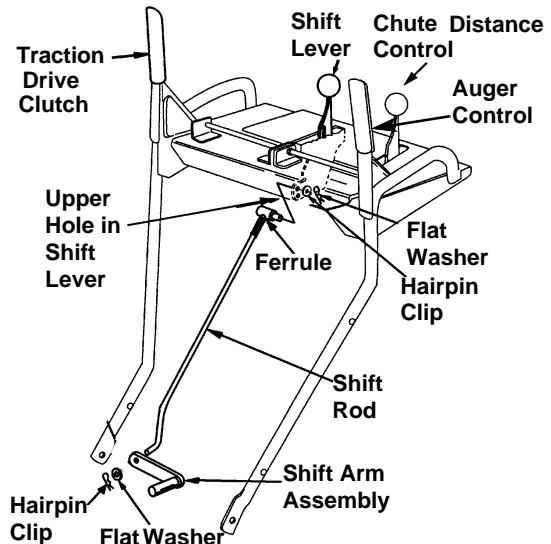

Figure 11
- Place the shift lever in the sixth (6) speed.
- Place the bent end of the shift rod into the hole in the shift arm assembly. See Figure 11. Secure with 5/16 flat washer and hairpin clip from group D of the hardware pack.
in the hole in the shift lever. For proper positioning of the ferrule and the associated hardware, see Figure 11.
- Secure the ferrule to the shift lever with another 5/16 flat washer and hairpin clip from group D of the hardware pack. See Figure 11.